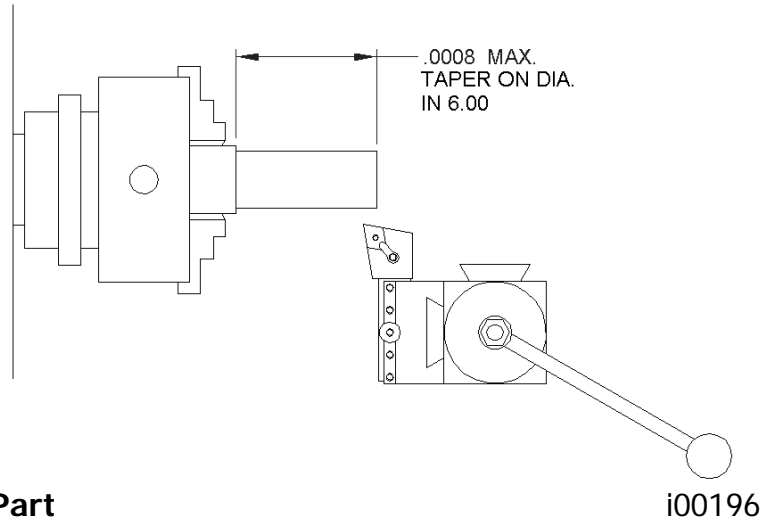

Figure 2-7 – Test Part
2.13 Cutting the Test Part (See Figure 2-7)